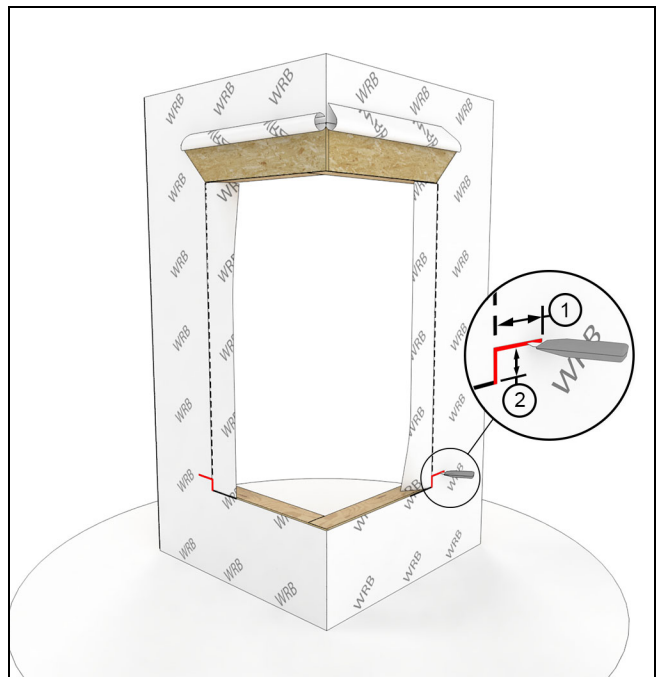

Figure 8
9. At the sill, trim the bottom corners about 3 1/2" (89) wide on each side and then make an additional 2" (51) vertical cut. See Figure 8.